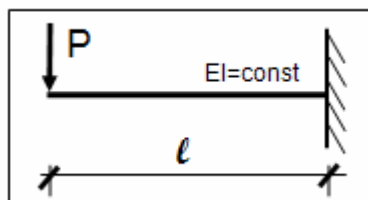

Fig. 4
05) The displacements of the free end “A” of the cantilever represented in Fig. 4 are the following: